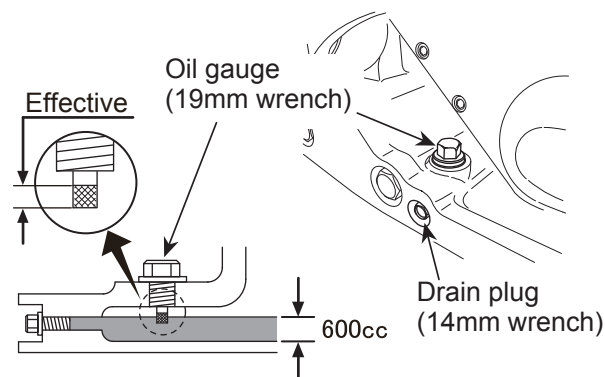

Figure 9. Vibrator Oil Check
2. Check vibrator oil level by removing the oil plug (vibrator oil gauge) as shown in Figure 9. Clean the oil gauge and re-thread back in. Remove the oil gauge again and confirm oil level does not exceed the cross hash of the oil plug. **DO NOT OVERFILL!**